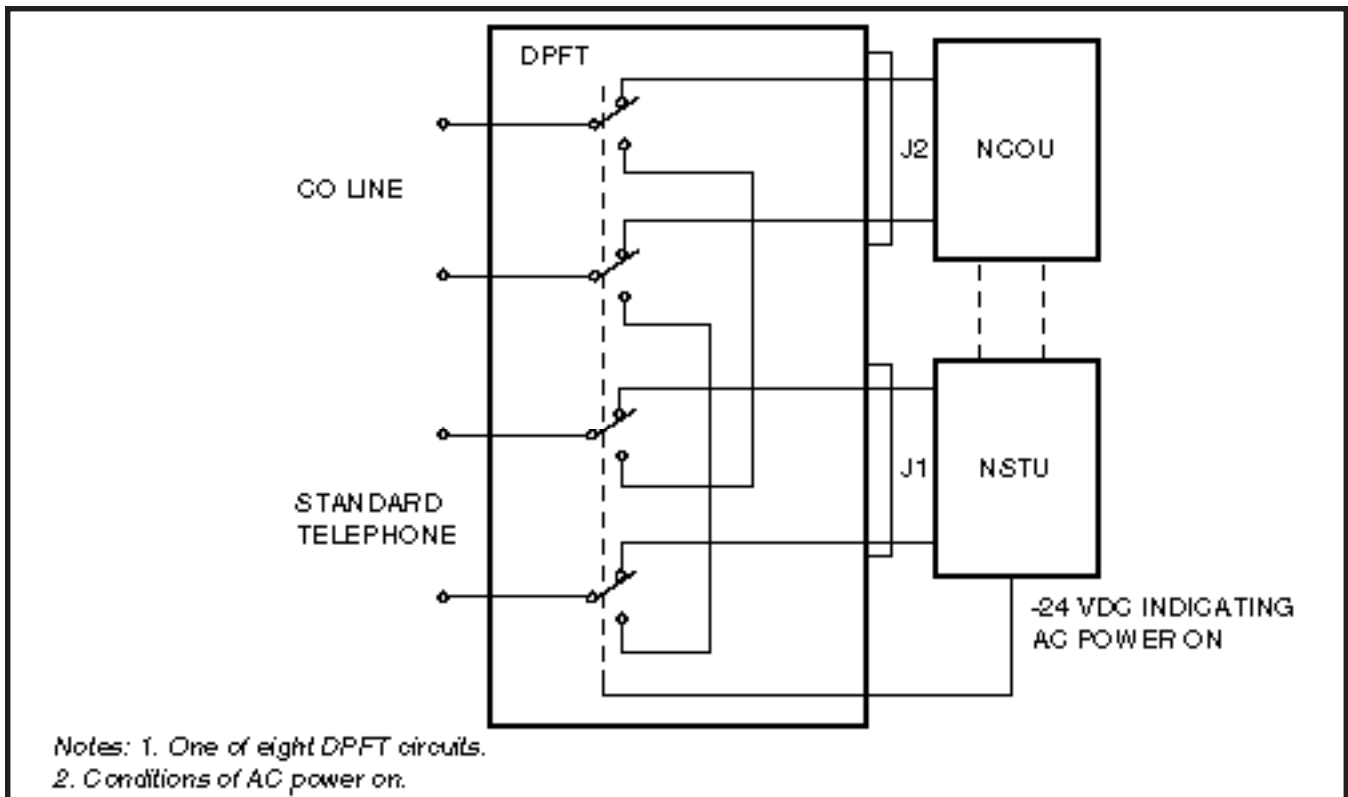

FIGURE 2-6—DPFT FUNCTIONAL DIAGRAM
**5.01** The DPFT is a self-contained module that mounts externally to the basic cabinet, typically on the MDF. Connections to the trunks, stations and basic cabinet are made via two 50-pin amphenol-type connectors (J1 and J2) on the DPFT (see functional diagram in Figure 2-6).